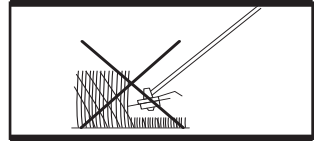

Fig. 15c
- 8). Trim longer grass in stages, do not cut long grass in one cut. For the best results, cut longer grass in steps. (See Fig. 15c, 15d)